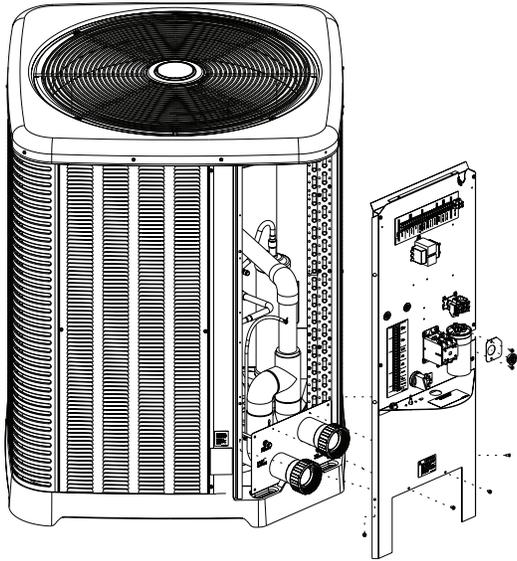

Figure 12. Sheet Metal Screws to remove Junction Box Panel
5. Remove the 4 screws securing the junction box panel to the cabinet (1 each side and 2 by Inlet/Outlet water connections). See **Figure 12**. Place the screws in the recessed cups in the molded base.